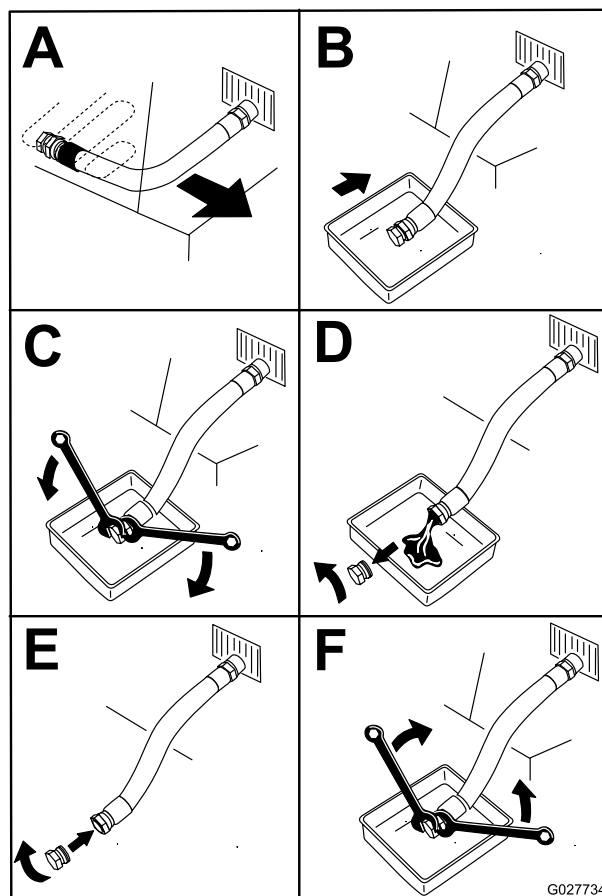

Figure 55
4. Shut off the engine, remove the key, and wait for all moving parts to stop before leaving the operating position (Figure 55).